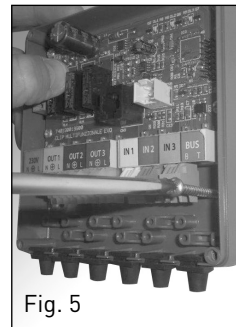

Fig. 5
- hang the control unit on the wall and insert the two fixing screws (fig. 5); before tightening them, make sure that the entire control unit is resting against the wall and level, both horizontally and vertically. If it is not, perform the necessary adjustments using the fixing screws.